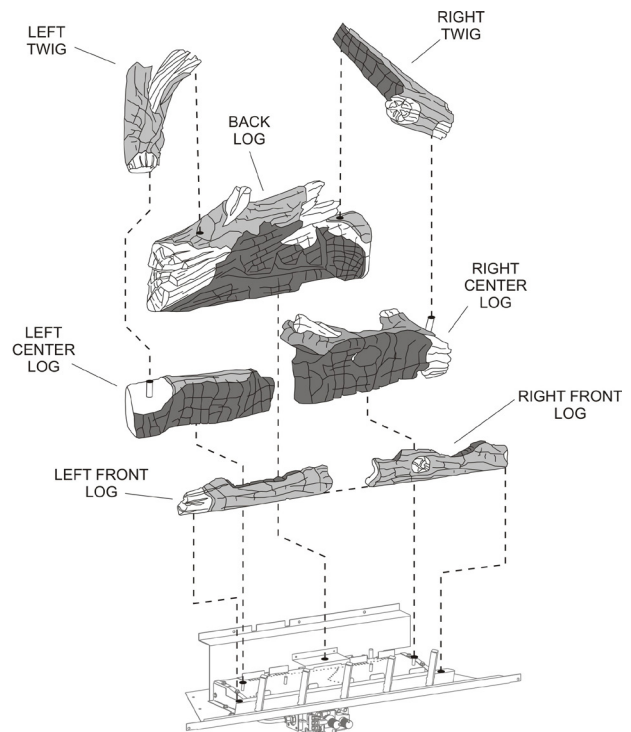

Figure 18
The positioning of logs is critical to safe and clean operation of this fireplace. Sooting and other problems may result if the logs are not properly and firmly positioned in the fireplace. Refer to **Figure 18** and **Figure 19** and corresponding WARNING when completing following log placement steps.
7. Begin with the front left and front right logs. Place these so that they are centered left to right on the front log support ledge. The flat bottoms will rest on top of the front log support ledge, and they must be positioned all the way forward and touching the back of the grate tangs. Two small tabs on the log support keep the two front logs from shifting rearward. Important: The front right log has a small knot as shown in **Figure 18**.